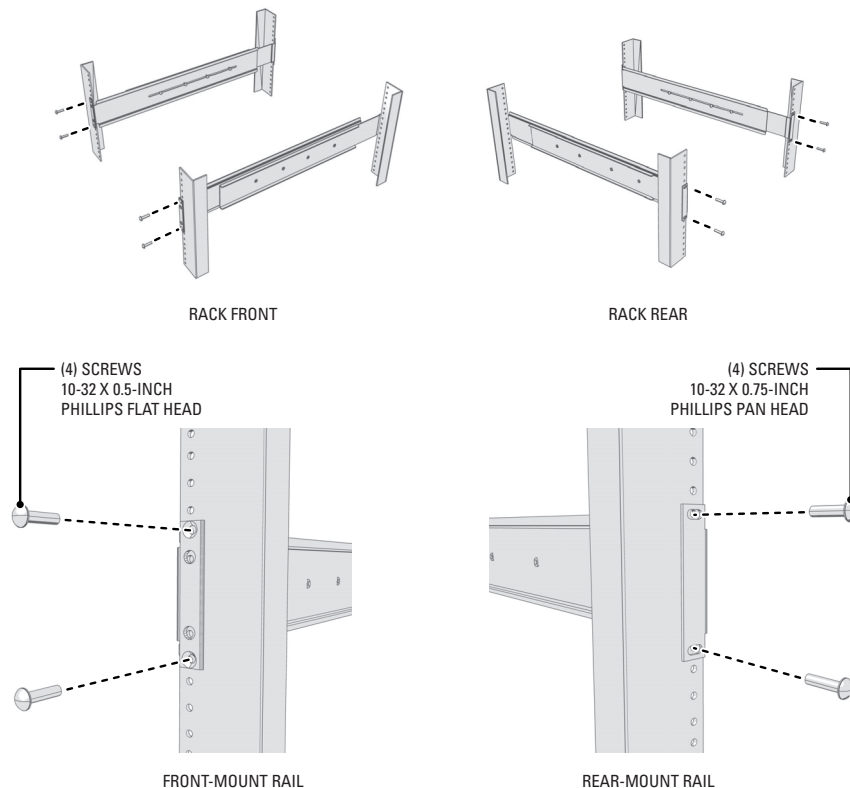

Figure 9. Attaching Support Rails
6. Attach one support rail assembly to the equipment rack in the desired location (refer to Figure 9):
7. Repeat step 6 for the second support rail assembly (refer to Figure 9).